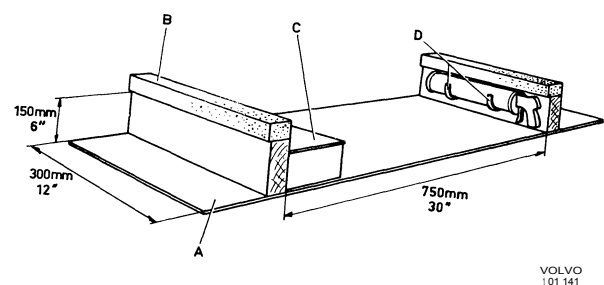

Fig. 59. Stand for windscreen when fitting rubber strip
1. Place the windscreen on a stand as shown in Fig. 59. Moisten the outer edge of the windscreen and fit the rubber strip starting at one of the corners. Adjust the strip so that it lies correctly all round.